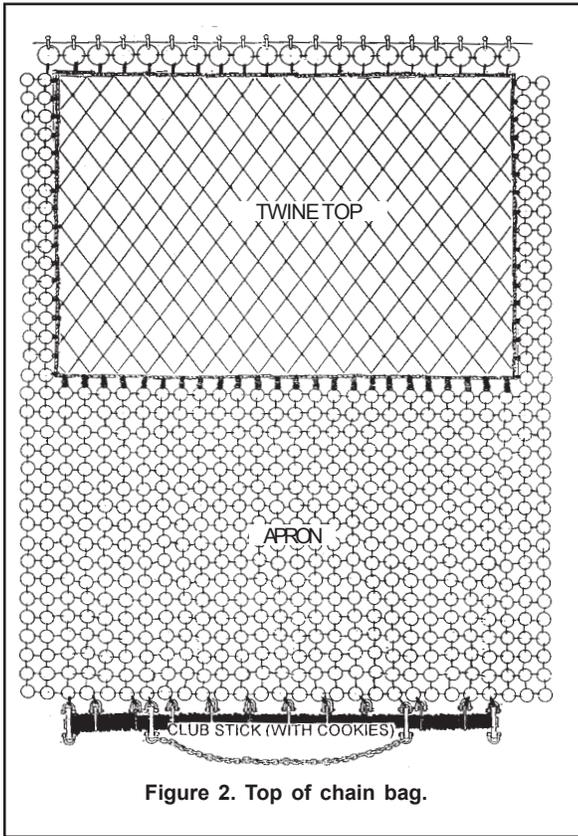

Figure 2. Top of chain bag.
**11. USED?:** Record whether the top of the chain bag contains a section of mesh called the twine top (see Figure 2) by placing an "X" next to the appropriate code:
**16. INSIDE RING SIZE (TOP OF BAG):** Record, in whole millimeters, the inside diameters of ten randomly selected rings from the top (apron; see Figure 2) of the chain bag. Use calipers for these measurements. See Appendix P. Vernier Caliper Instructions for further information.